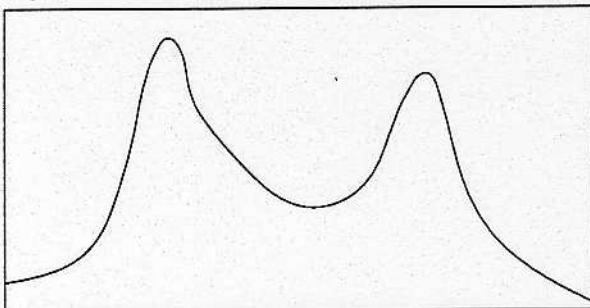

Fig. 16
- e) Before fine-tuning the IOT, both coupling loops should be set to about  $45^\circ$ . This will allow the relative positions of both the primary and secondary output cavities to be seen, by giving a 'double humped' response (see Fig. 16).
- e) Before fine-tuning the IOT, both coupling loops should be set to about 45°. This will allow the relative positions of both the primary and secondary output cavities to be seen, by giving a 'double humped' response (see Fig. 16).